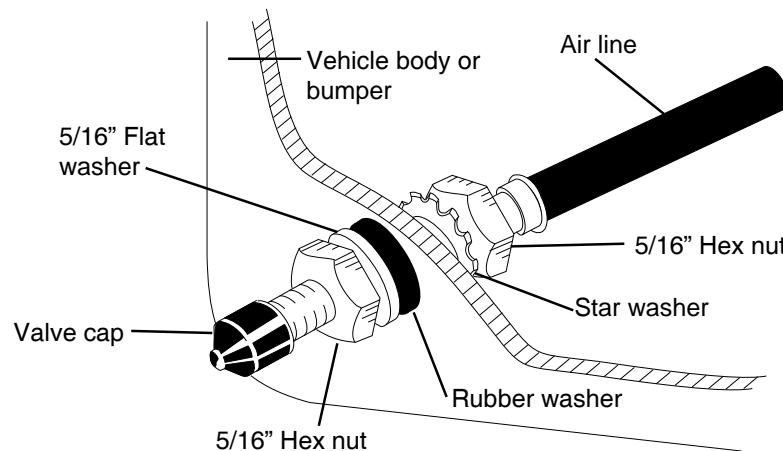

fig. 11
4. Place a 5/16" nut and star washer on the air valve. Leave enough of the inflation valve in front of the nut to extend through the hole and have room for the rubber washer, flat washer, and 5/16" nut and cap. There should be enough valve exposed after installation—approximately 1/2"—to easily apply a pressure gauge or an air chuck (fig. 11).